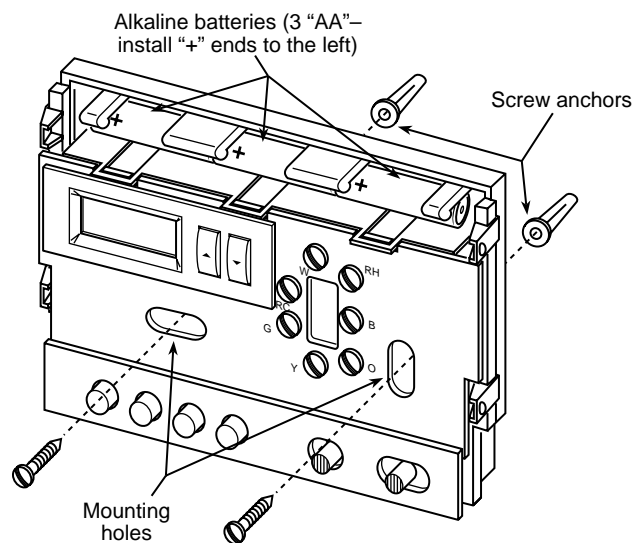

Figure 2. Thermostat base
5. Fasten base loosely to wall, as shown in fig. 2, using two mounting screws. Place a level against bottom of base, adjust until level, and then tighten screws. (Leveling is for appearance only and will not affect thermostat operation.) If you are using existing mounting holes, or if holes drilled are too large and do not allow you to tighten base snugly, use plastic screw anchors to secure subbase.
If the word **BATTERY** is displayed, the batteries are low and should be replaced with fresh “AA” Energizer® alkaline batteries. To replace batteries, install the batteries along the top of the base (see fig. 2). The batteries must be installed with the positive (+) ends to the left.